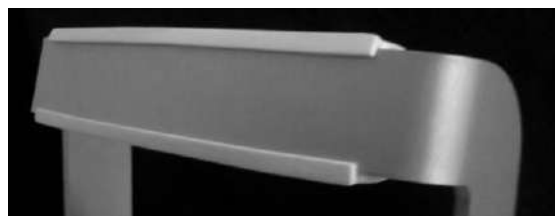

Fig. 14 – Forehead rest mounted on metal support
- insert the forehead rest on the metal support (see Fig. 14);